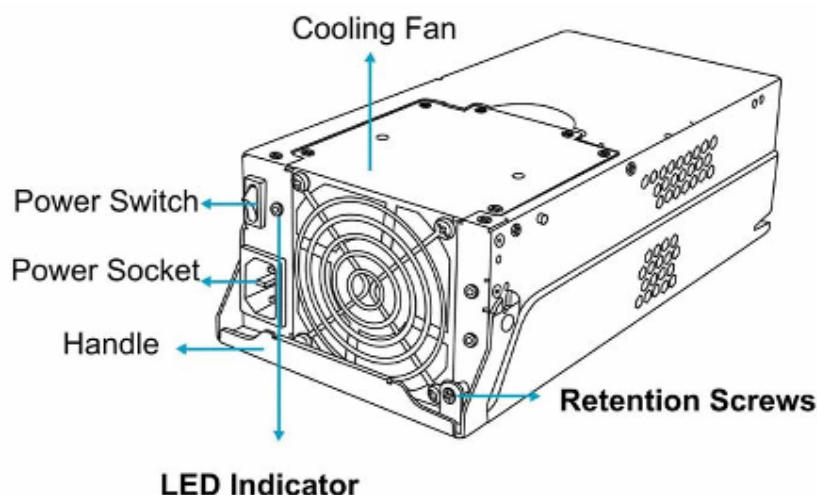

Figure 5-8: PSU Parts Identification
- Step 1.** **Power off the PSU.** The power switch is located on each PSU's rear-facing panel. (See **Figure 5-8**)